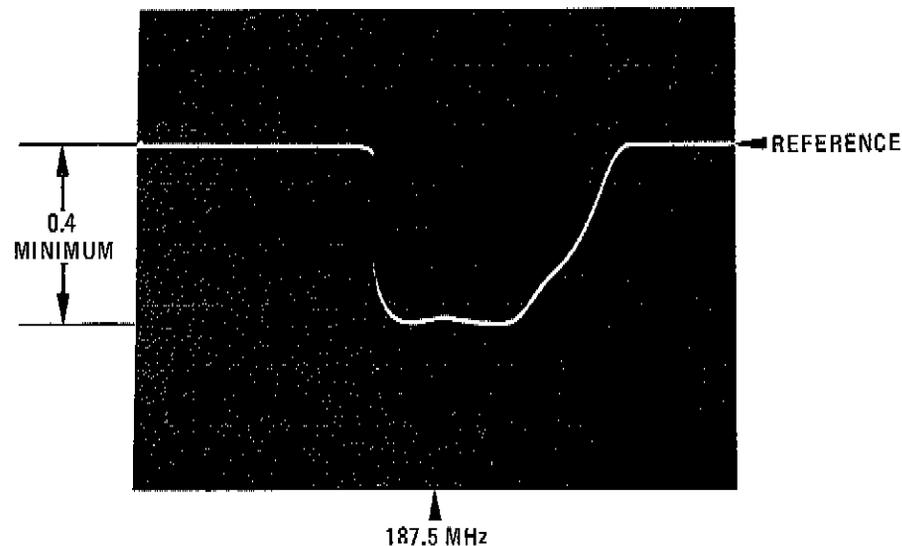

Figure 5-5. Typical Swept Frequency Response at A3A9A5TP1
7. Adjust A3A9A5C1 and C2 (with an insulated adjustment tool) to get an oscilloscope display similar to Figure 5-5. Tune for maximum negative voltage and flatness over the center two divisions. The minimum change from the reference level to the maximum negative voltage should be 0.4 volts.